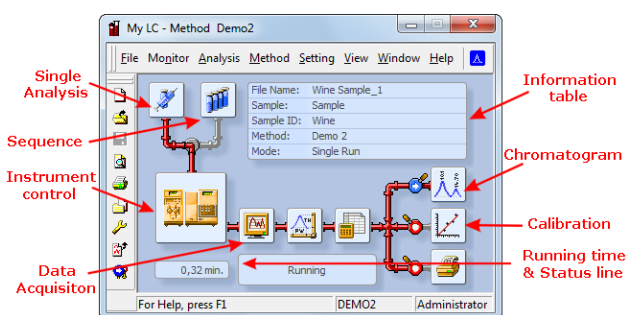

Fig 10: Analysis-processing window
- The **Instrument** window will open; **Fig 10** on pg 17. shows the most important icons in the **Instrument** window. During the tour, we will review all windows opened by these icons.
- In the **Instrument** window, look at the *Status line* (see **Fig 10** on pg 17.). The acquisition is now signaled by the **RUNNING** state and the actual run time shown there.
- To see the data acquisition in process and possibly control it, use the **Data Acquisition**  icon (see **Fig 10** on pg 17.) to enter the **Data Acquisition** window.
- Depending on your station's configuration, one or more signals may be displayed. The number of detectors (signals) and their names can be seen in the upper right corner of the graph **①**.